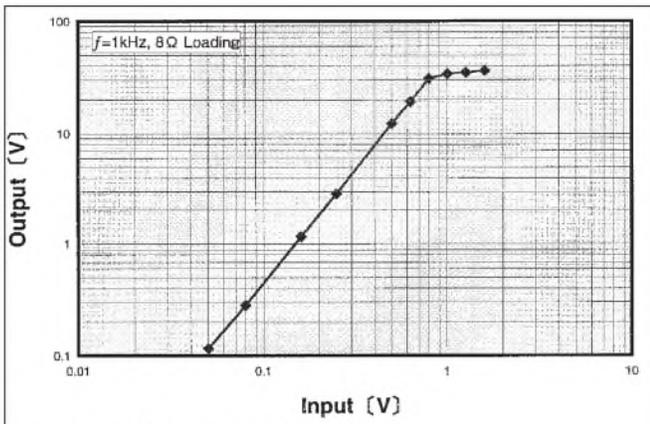

FIGURE 12: Input versus output.
1) Input-to-output characteristic—Fig. 12